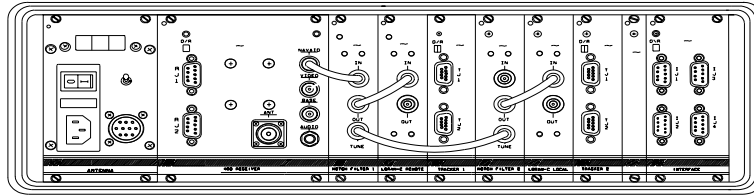

Figure 4-2 ZEEMET Rack Back View
2. Refer to Figure 4-2. Turn on power to the ZEEMET Rack (the red switch located in the back of the ZEEMET Rack at the top of the Antenna Module).